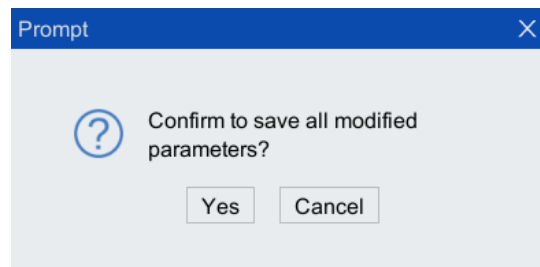

Figure 4-18 Confirm to save the modification prompt box
Step4. Click <Yes> in the prompt dialog box that pops up. As shown in Figure 4-18.